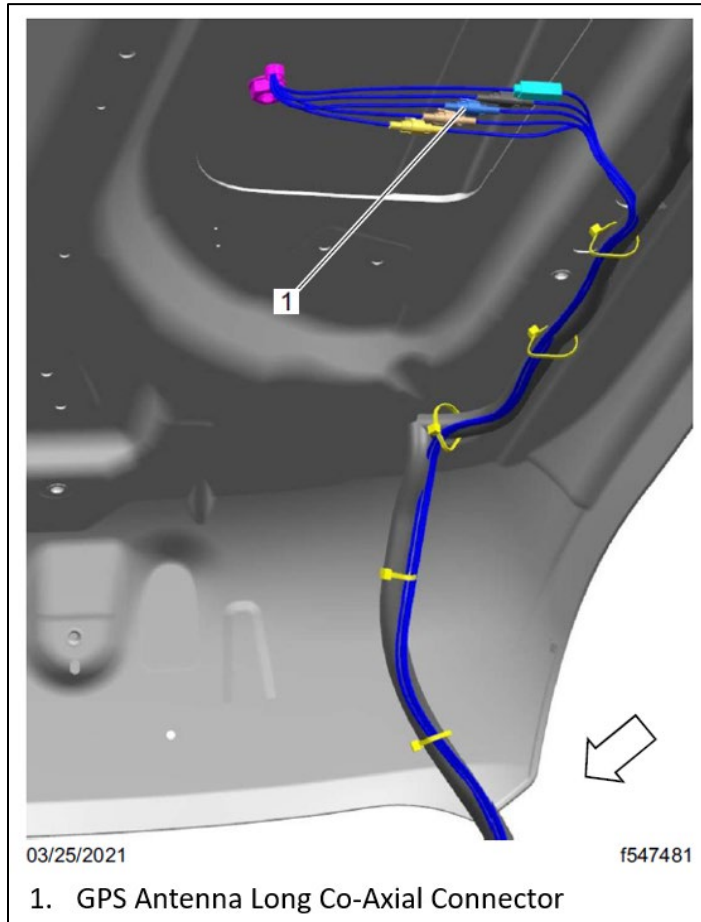

Fig. 22, Cummins Acumen GPS Antenna Long Co-Axial Cable Installation
5. Route the long co-axial cable from the right side of the electronics bay, along the existing wire harness through the RH side A-pillar, into the cab roof, and then connect it to the shark fin antenna blue connector. See Fig. 22. Secure the cable with tie straps.